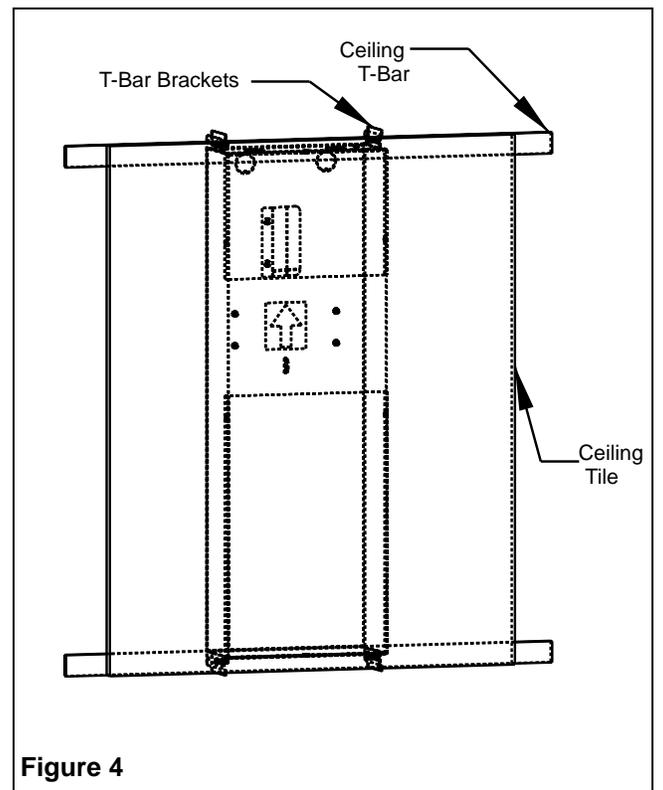

Figure 4
3. Position the back-box at the desired location across the ceiling T-bars (Figure 4). Secure the Back-Box to the ceiling joists by chains, or "pencil rod" wire (supplied by others) to support the unit.